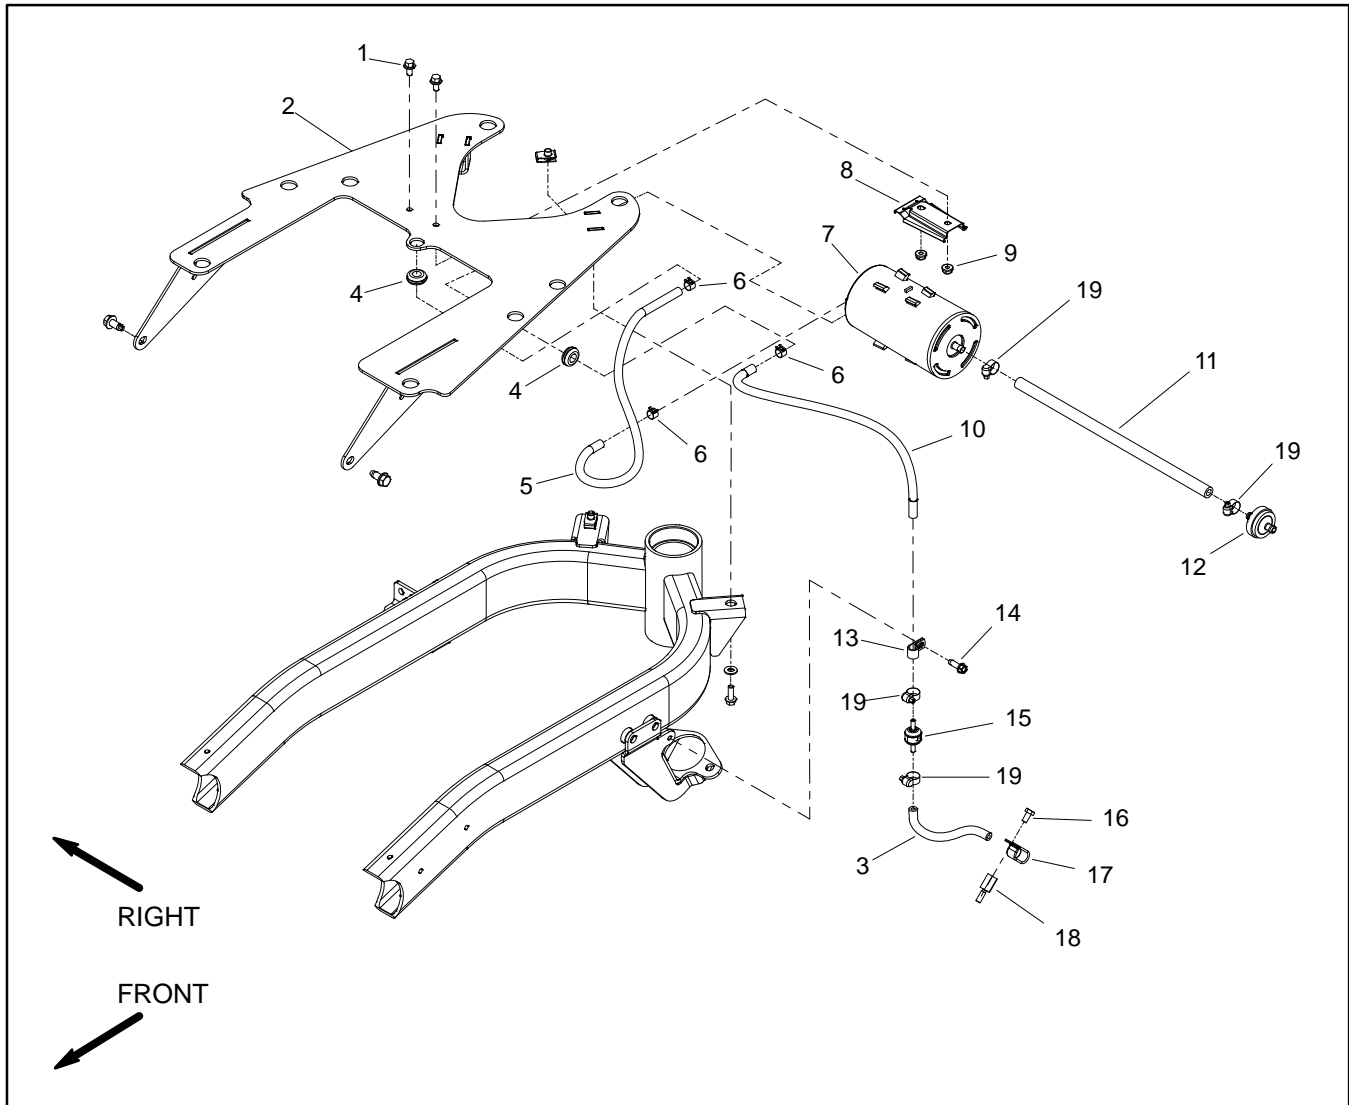

Figure 3
Removal (Fig. 3)
4. Remove components as needed using Figure 3 as a guide.
A. If check valve (item 15) is removed, note direction of arrow on valve body for assembly purposes.
Installation (Fig. 3)
1. Install all removed components using Figure 3 as a guide.
A. If check valve (item 15) was removed, make sure that arrow on valve body points toward engine.